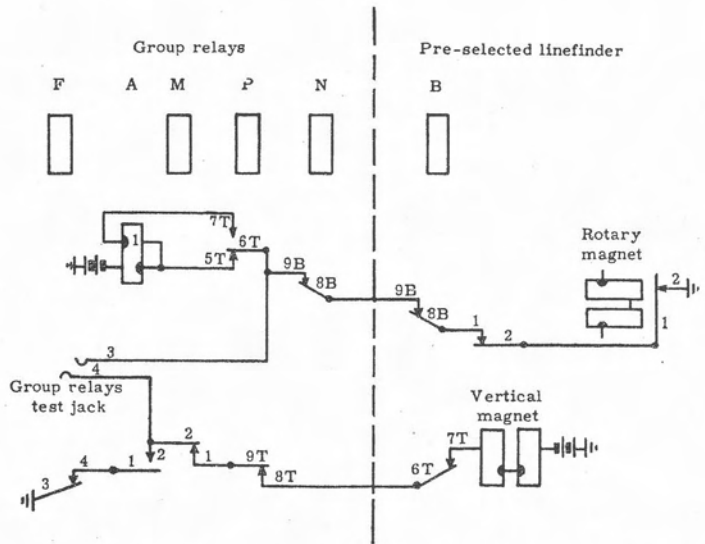

Figure 37. Circuit elements used to test "timing out" of one group relays and the transfer of its traffic to the other group.
**6.55 Timing-out and transfer test (figure 37).** To check the group transfer feature of a group, insert a coin, clip, or screwdriver between its test-jack springs 3 and 4. Then bridge or press together group-relays test-jack springs 1 and 2. Relay A locks when the shaft takes its first step. Since the linefinder is thus "frozen" on its first step, neither linefinder relay A or D may operate (§4.5) to release group relay N. Relay N is therefore unable to release relay F which by its continuous operation (§5.5) should cause group transfer to take place and the FINDER BLOCKED lamp to light. Momentarily operate the TRANSFER RESET key to extinguish the FINDER BLOCKED lamp and return the